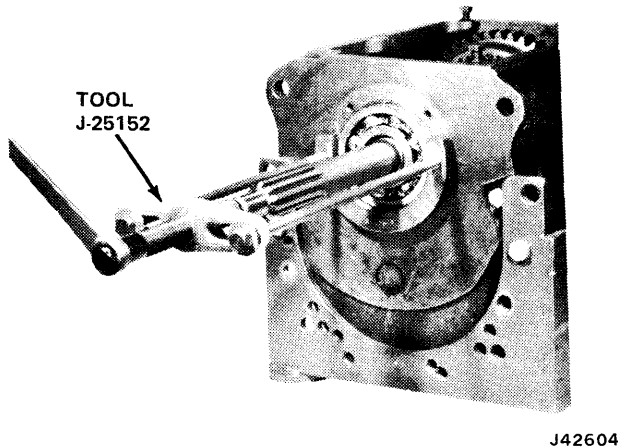

Fig. 6-36 Front Bearing Removal
- (10) Remove front bearing from clutch shaft using Puller Set J-25152 (fig. 6-36).
- (11) Remove front bearing retaining washer from clutch shaft.